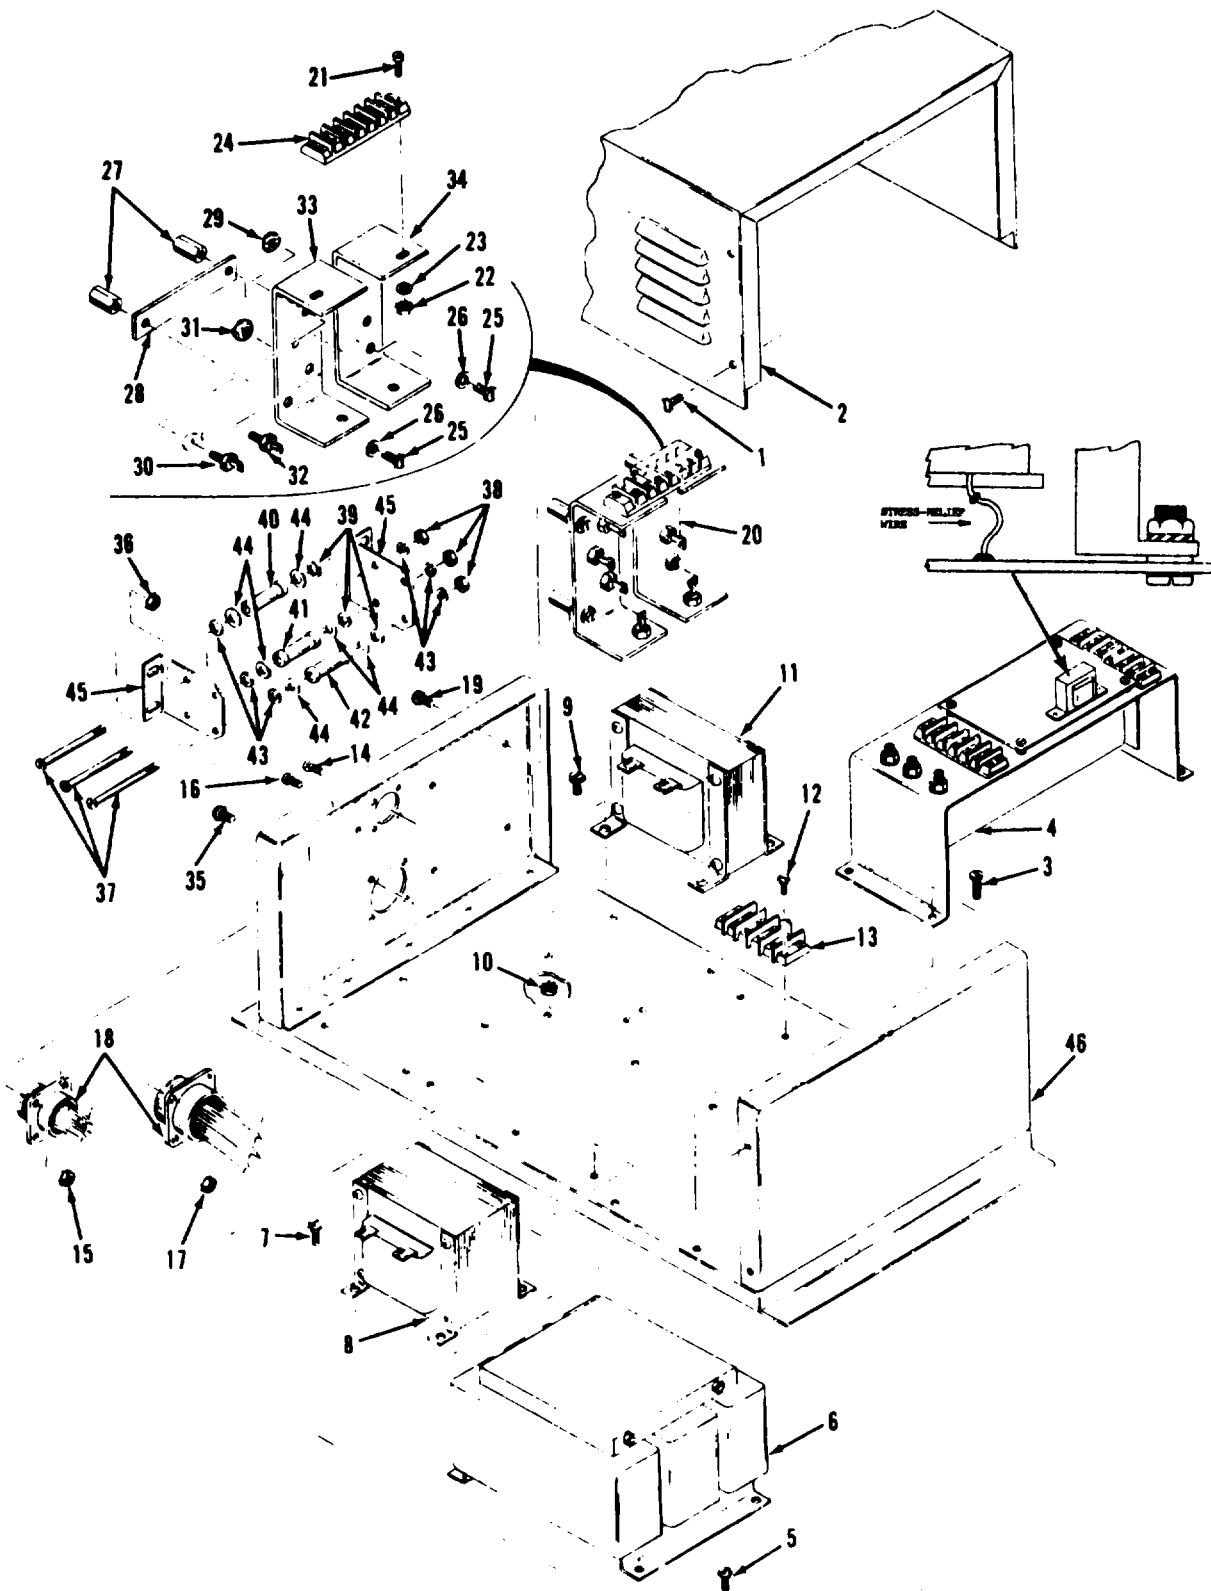
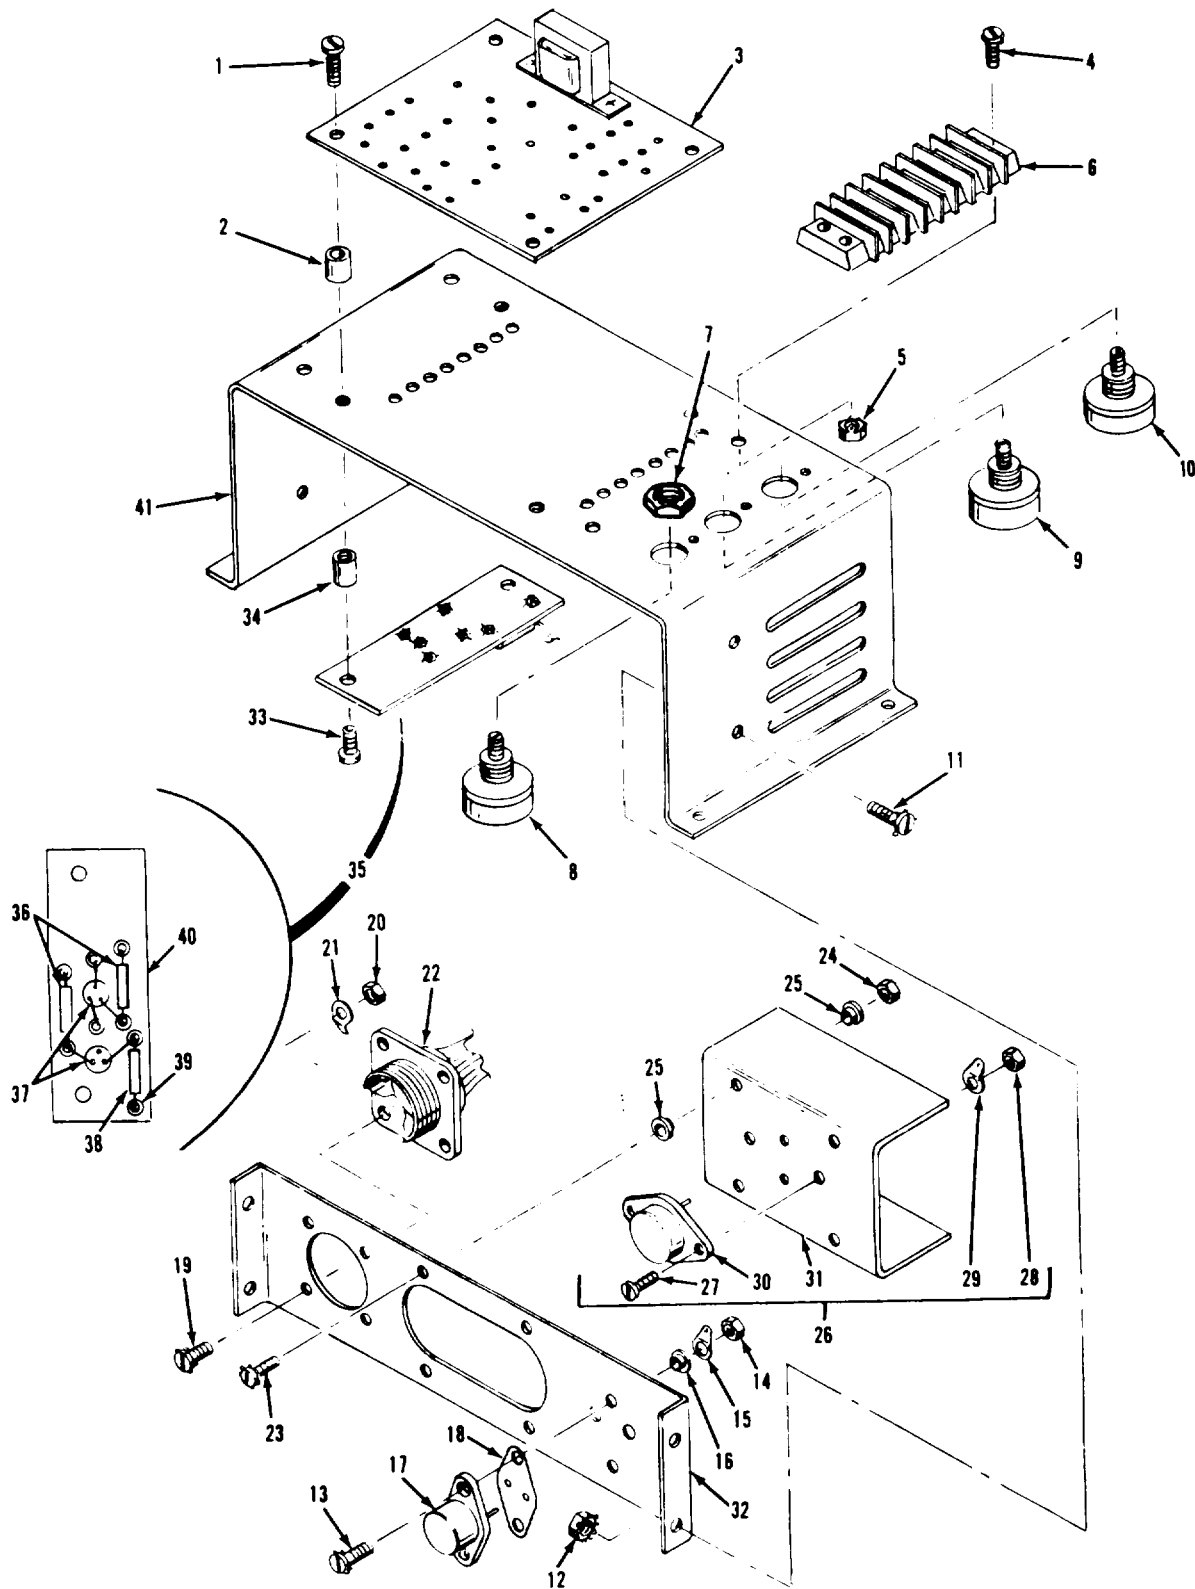
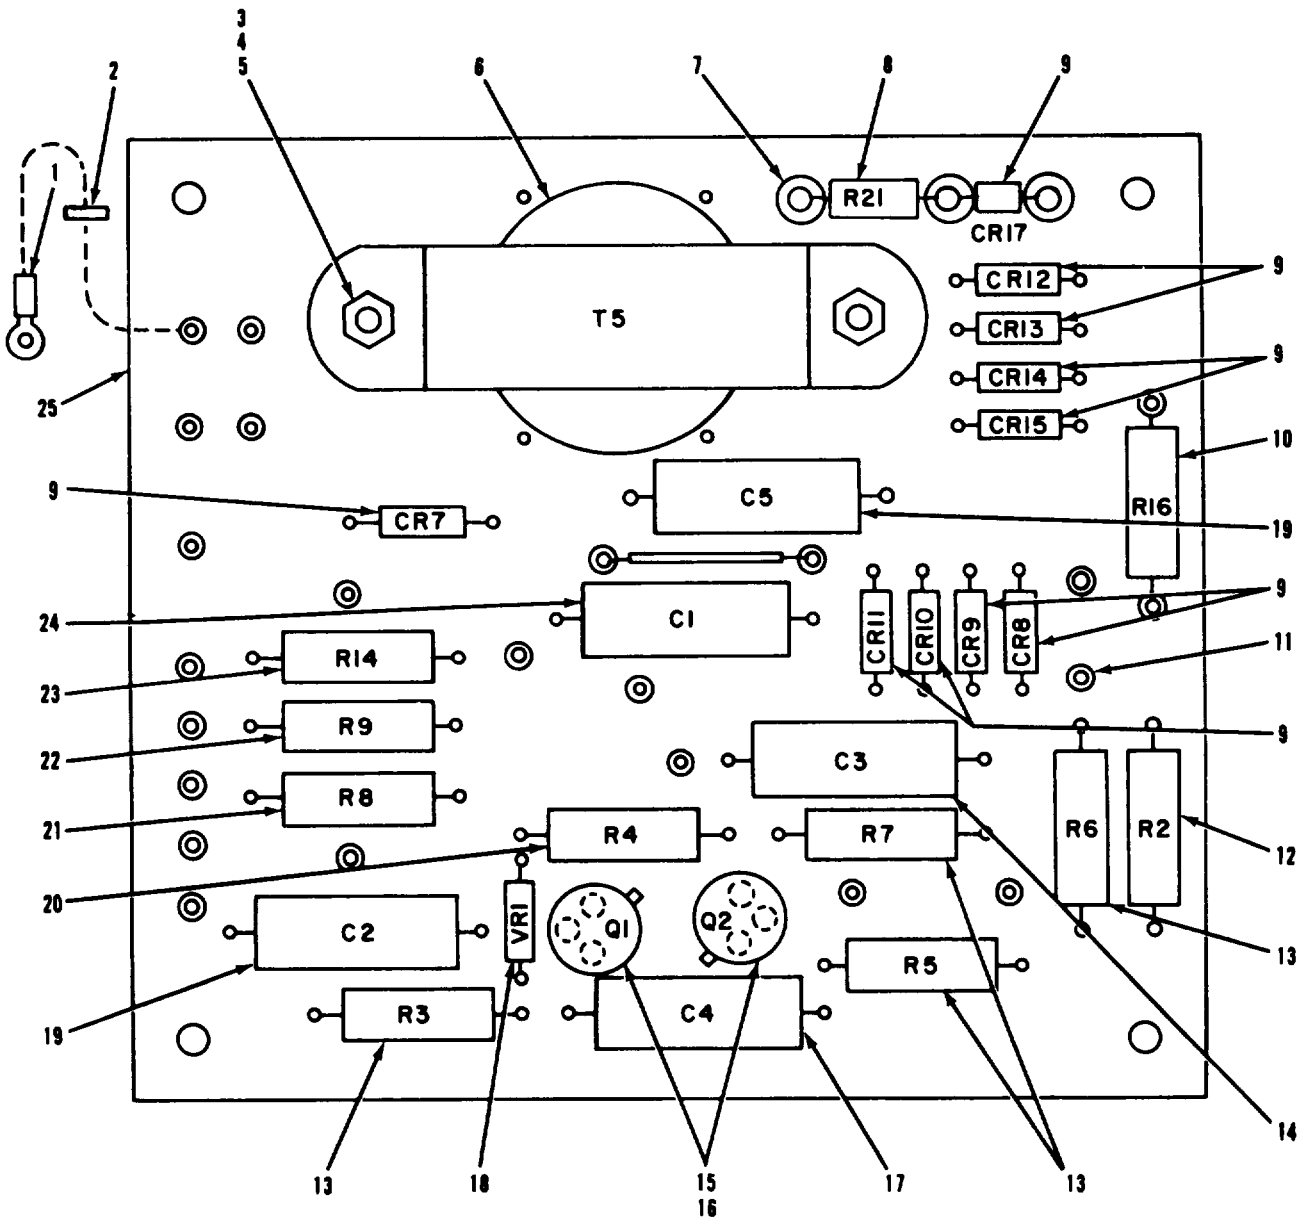

Figure 6-17. Exciter regulator, exploded view
Figure 6-18. Voltage regulator exploded view
Figure 6-19. Voltage regulator subassembly
Refer to figure 6-17 and disassemble the exciter regulator in the order of index numbers assigned. Pay particular attention to the following:
a. Remove cover (2, figure 6-17) by removing eight screw assemblies (1).
- d. Refer to figure 6-18 and disassemble the voltage regulator assembly (4, figure 6-17) to the extent necessary to accomplish repair.
- e. Refer to figure 6-19 and disassemble the voltage regulator sub-assembly (3, figure 6-18) to the extent necessary to accomplish repair.
d. Broken T5 transformer leads can be repaired by soldering a 1.5 inch long, MIL-W-16878/2C 18 AWG stranded, Stress-relief wire from the transformers broken lead to its soldering terminal on the board (see figure 6-17).
Refer to figure 6-17 and reassemble the exciter-regulator in the reverse order of index numbers assigned. Pay particular attention to the following:
- a. Refer to figure 6-19 and reassemble the voltage regulator sub-assembly.
- b. Refer to figure 6-18 and reassemble the voltage regulator assembly.
Legend to figure 6-17:
Legend to figure 6-18:
Legend to figure 6-19: